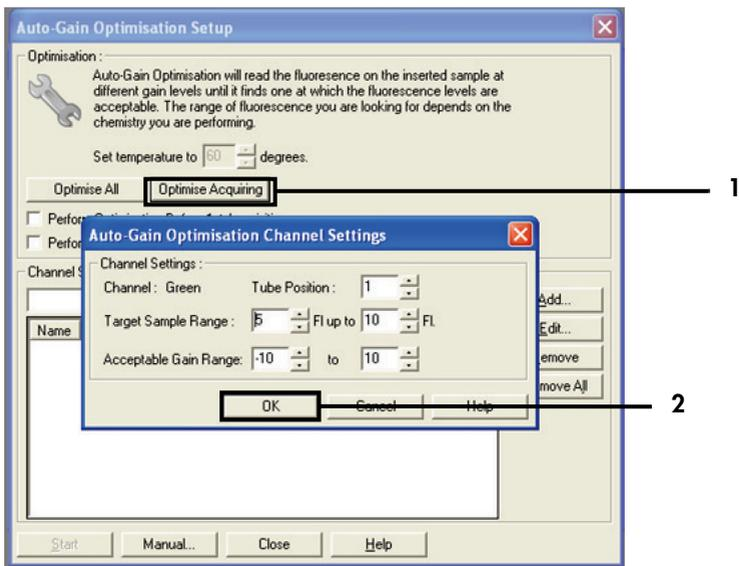

Figure 30. Auto-gain optimization for the Green channel. 1 = "Optimize Acquiring"; 2 = "OK."
13. Click **Optimize Acquiring**. Channel settings are displayed for each channel. Click **OK** to accept these default values for both channels. (Figure 30).